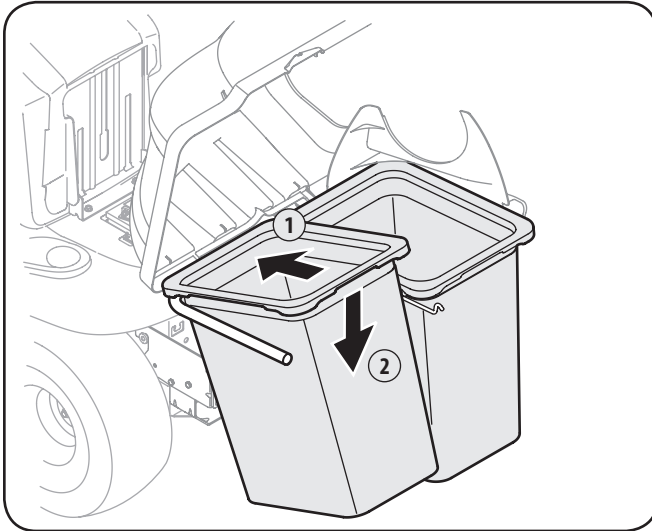

Figure 4-17
7. Install both grass bag assemblies, with the tight mesh sides facing forward, onto the bag support brackets by inserting the front edge in first, as shown in Figure 4-17, and setting the back edge down until it fits into the assembly.